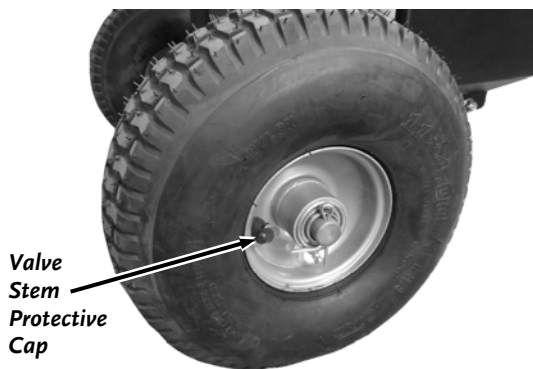

Figure 19
1. Remove the Valve Stem Protective Cap (**Figure 19**) and check the tire pressure with a Tire Pressure Gauge.